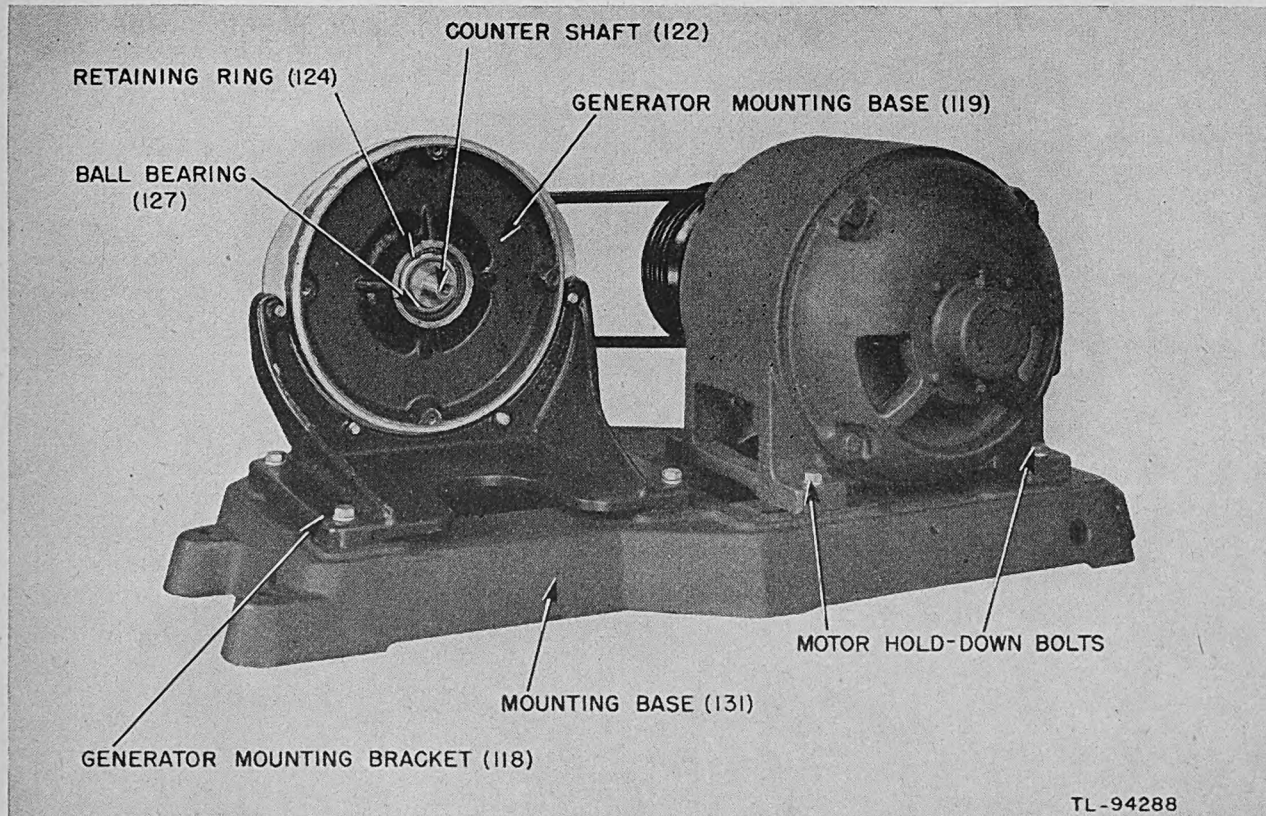
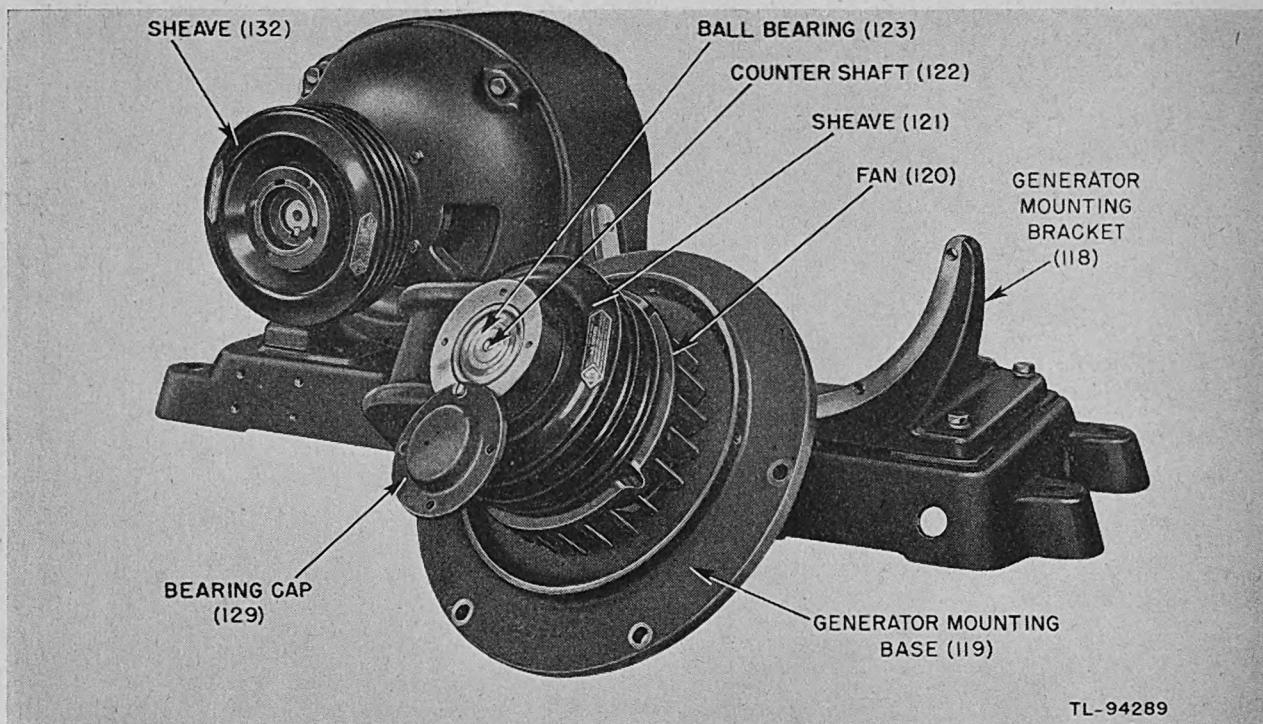

Figure 11. Mounting with generator and belt guard removed.
Figure 12. Generator mounting base assembly removed from bracket.
(2) Remove the two $\frac{3}{8}$ -inch hexagonal screws holding the belt guard bracket to the mounting base. Lift off the belt guard.
(3) Loosen the four bolts holding the motor to the mounting base and slide the motor toward the generator. Remove the two V-belts from the sheaves (fig. 12 (132)).
(4) Remove the retaining ring (fig. 11 (124)) from behind the bearing on the alternator end of the countershaft.
(5) Remove the four $\frac{3}{8}$ -inch hexagonal screws holding the generator mounting base to the generator mounting bracket, and remove the base with all parts attached (fig. 12).
(6) Remove the bearing cap (fig. 12 (129)) by taking out the four No. 10-32 screws.
(7) Remove the two socket setscrews from both the sheave (fig. 12 (121)) and the fan (fig. 12 (120)).
(8) Tap on the end of the countershaft (fig. 12 (122)) which was covered by the bearing cap (fig. 12 (129)) until it is driven through all parts. The front bearing will remain in the generator mounting base, and the rear bearing will remain on the countershaft.
(9) The generator mounting bracket or the motor may now be removed from the base by removing the four screws holding each. The sheave (fig. 12 (132)) on the motor and the sheave (fig. 12 (121)) on the countershaft are attached to their shafts with setscrews.
a. Generator Tests. (1) **PRELIMINARY TESTS.** Make the following tests with the stator and yoke assembled, the armature removed or the brushes lifted from commutator, and all wires connected.
a. Countershaft Assembly. (1) Press the rear bearing (fig. 11 (127)) on the countershaft (fig. 12 (122)).
(2) Insert key in countershaft keyway. Insert countershaft through generator end of generator mounting base and slide the fan and then the sheave (fig. 12 (121)) on the shaft. Align the keyway in the sheave and the fan with the key in the countershaft.
(3) Insert the countershaft into the front bearing (fig. 12 (123)), and tap on the end of the shaft with a soft mallet until it is tightly fitted.
(4) Tighten the socket setscrews in the sheaves and the fan. Install the retaining ring (fig. 11 (124)), behind the rear bearing (fig. 11 (127)) and the bearing cap (fig. 12 (129)) over the front bearing (fig. 12 (123)), fastening with four No. 10-32 screws and lockwashers.
(5) Replace the generator mounting base (fig. 12 (119)) on the generator mounting bracket (fig. 12 (118)), fastening with four $\frac{3}{8}$ -inch hexagonal screws and lockwashers. If the mounting bracket was removed from the base (fig. 11 (131)), replace it.